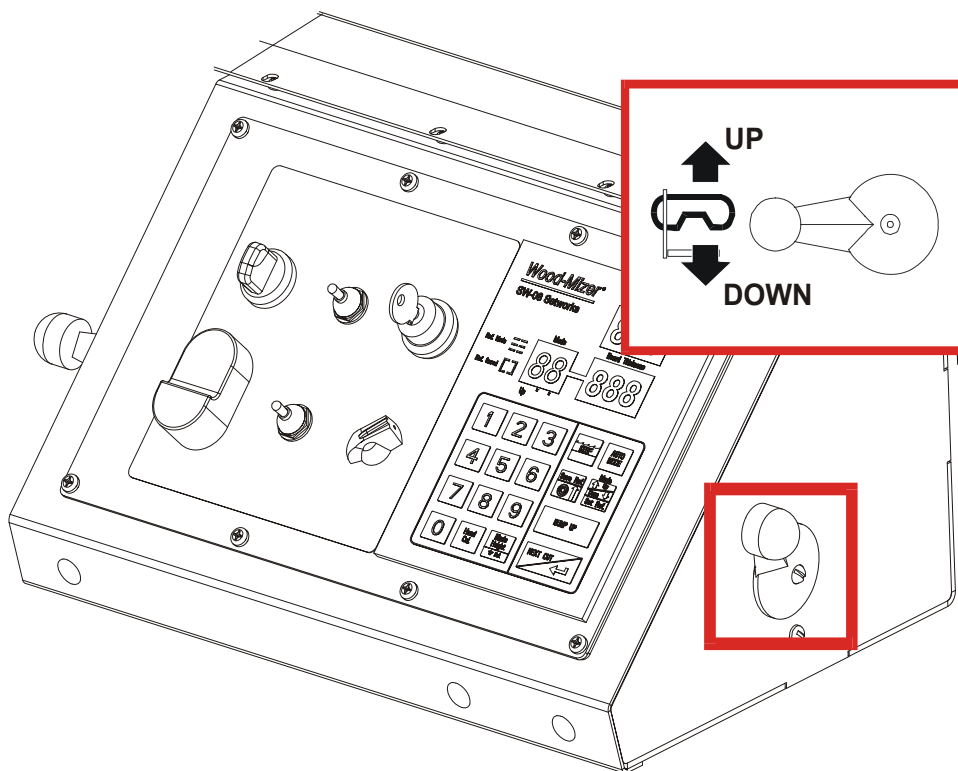

FIG. 2-11
**See Figure 2-11.** The up/down switch is located on the right side of the control panel. Push the switch up to raise the cutting head; push the switch down to lower the cutting head. Hold the switch in position until the cutting head reaches the desired height, then release..